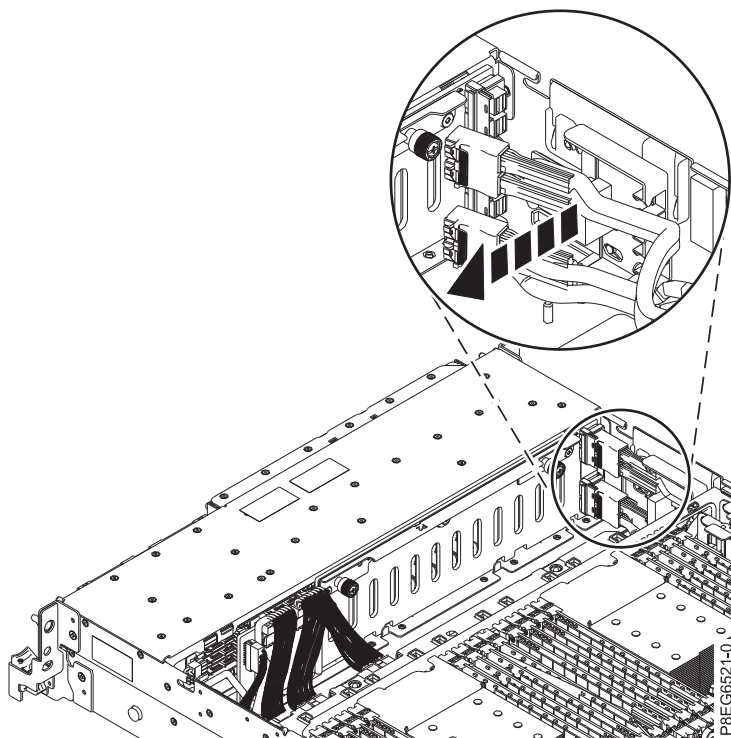

Figure 2. Removing the front SAS cables from the guide block
4. Pull the disconnected end of the cables out of the plastic guide block on the side of the system chassis, as shown in Figure 2.